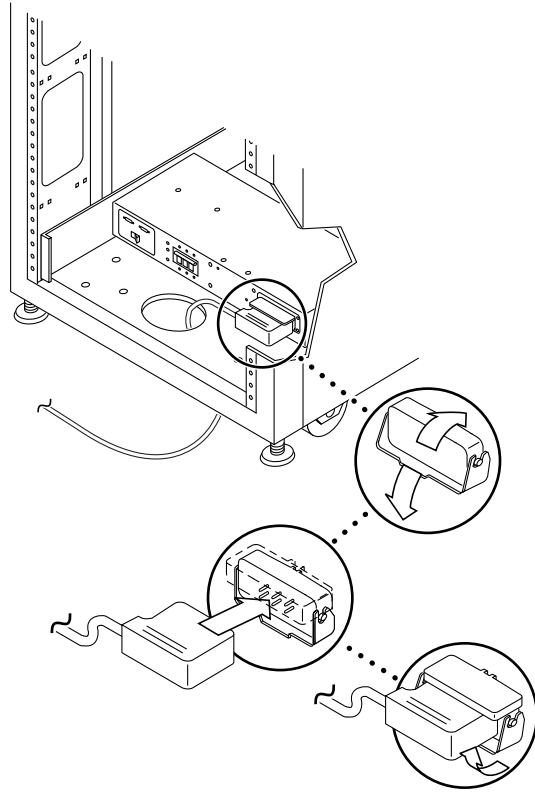

FIGURE 4-4 Connecting the Power Cables
3. **Connect the square female end of one power cable to the rear power sequencer connector. Connect the square female end of the other power cable to the front power sequencer connector (FIGURE 4-4).**